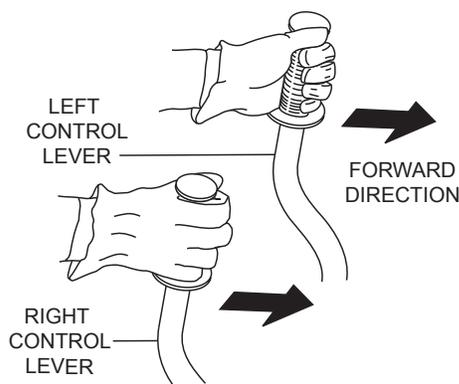

Figure 17. Control Levers (FORWARD)
1. Push both the left and right control levers forward. See Figure 17.